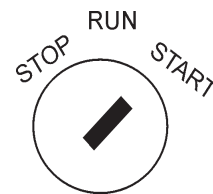

Figure 20. Key switch
2. Turn switch key to start. Once it is cranked and starts to run, release the key (Figure 20).